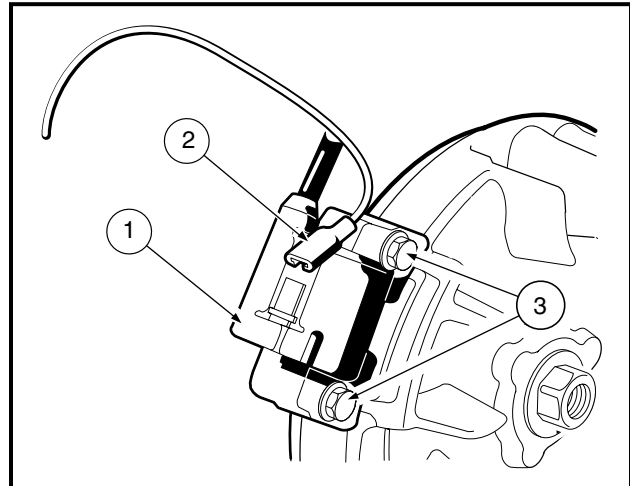

Figure 3-55 Ignition Coil
2. Disconnect the ignition coil (1) from its primary lead wire at the connector (2). Remove the two bolts (3) and remove the ignition coil (**Figure 3-55, Page 3-28**).